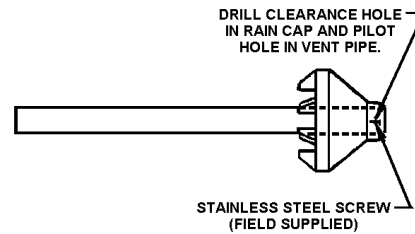

FIGURE 25.
- Cement rain cap to smaller diameter kit pipe, see Figure 25.
NOTE: Instead of cementing the smaller pipe to the rain cap, a field-supplied stainless steel screw may be used to secure the 2 components together when field disassembly is desired for cleaning, see Figure 25.
- b) Cement the rain cap to the smaller diameter kit pipe, see Figure 25.